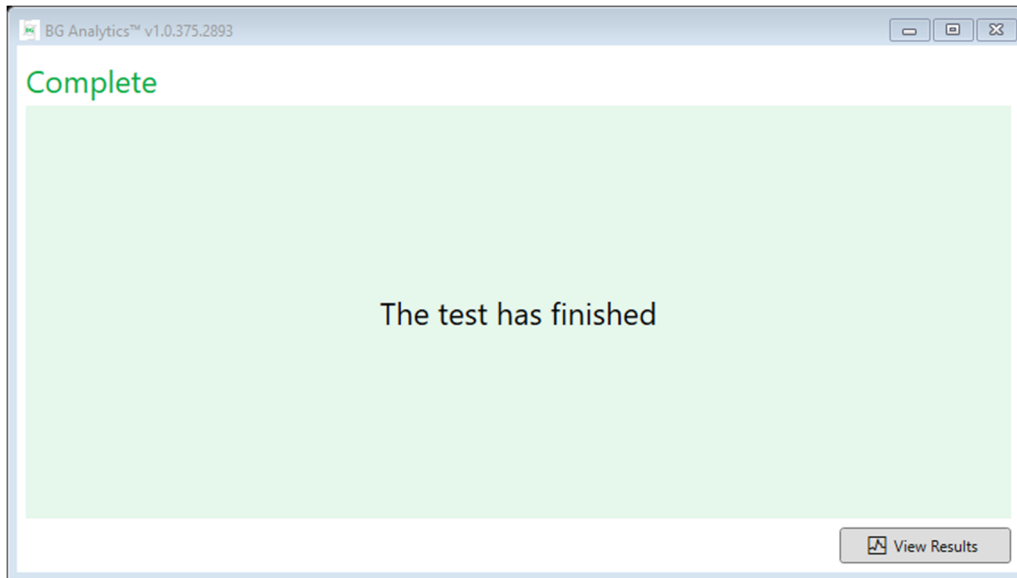

Figure 14. BG Analytics® Complete Screen
- 8. Upon completion of the test in all wells, BGA automatically proceeds to the **Complete** screen and displays “The test has finished” (as shown in Figure 14).